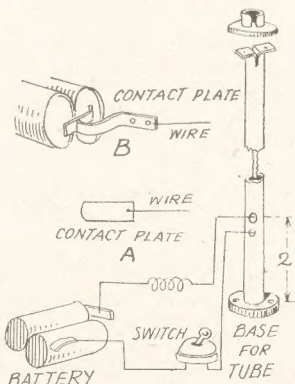

Fig. 4—Theoretical circuit of lamp
To form a fixing for the bulb holder which may be purchased ready-made and with the necessary points to which the flex may be attached, the tube is cut down at the top end and the two 'leaves' turned down or folded back and then drilled, as the detail Fig. 4 shows. Two holes are next drilled in the tube at about 2 ins. up from its base for the flex to pass through on its way up to the top.
The arrangement of the batteries and the method of wiring is shown in Fig. 4. The batteries lie to the left of the lamp and in the corner of the box, being held in place there by two small-section wood fillets.
plate is fixed to the floor of the box just where the batteries will rest. The raised contact piece on the batteries will meet the plate which has one of the flex wires attached to it, see enlarged detail at (A) in Fig. 4.